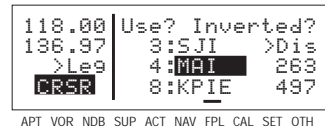

Figure 4-115
- Press **ENT** and the waypoint will be deleted from the flight plan. The other waypoints in the flight plan will be correctly repositioned (figure 4-115).